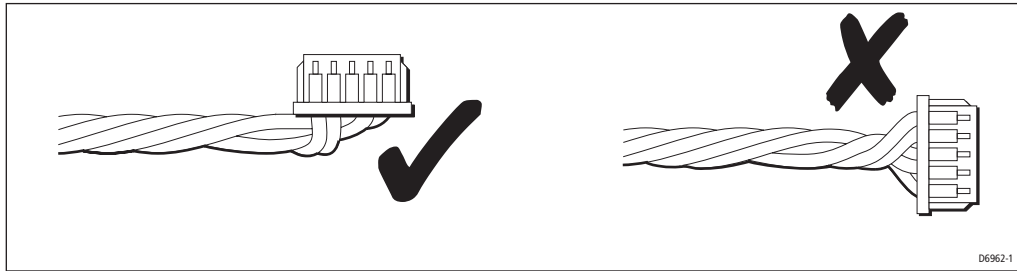

Figure 4: Cable/connector arrangement
- i. Arrange the upper connector of the transducer arm cable assembly as shown in *Figure 4*.